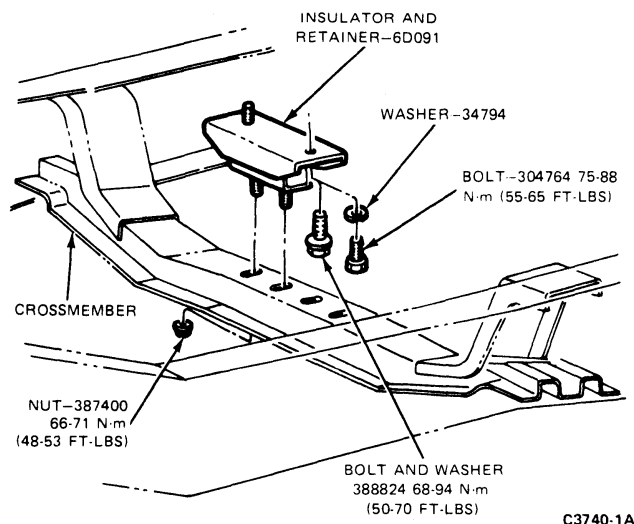

FIG. 4 Rear Support and Crossmember Installation
7. Raise the rear of the engine high enough to remove the weight from the crossmember. Remove the bolts retaining the crossmember to the frame side supports and remove the crossmember (Fig. 4).